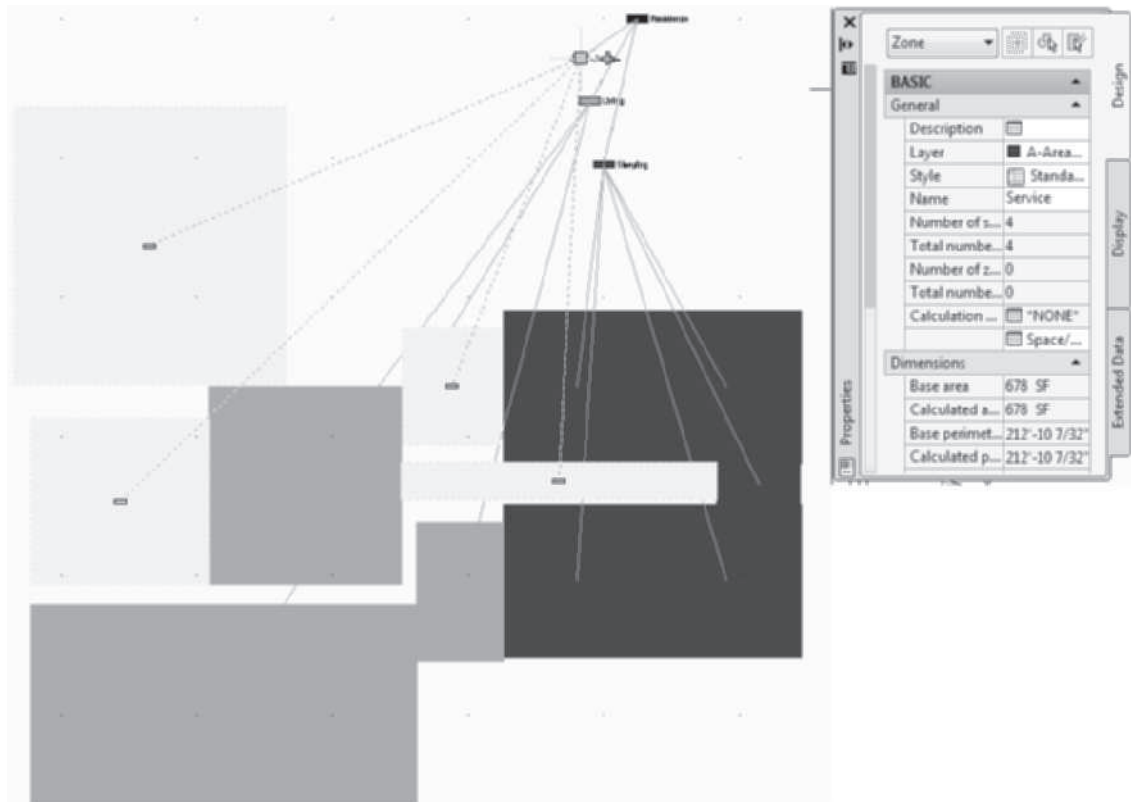

FIGURE 4.42 Attaching spaces to zones
17. Choose the **Sleeping** zone to display the “+” sign. Choose the “+” and select the four bedroom spaces and the adjoining closet [cupboard] as shown in Figure 4.42. Press **ENTER** to end the selection and press **ESC** to end the command.